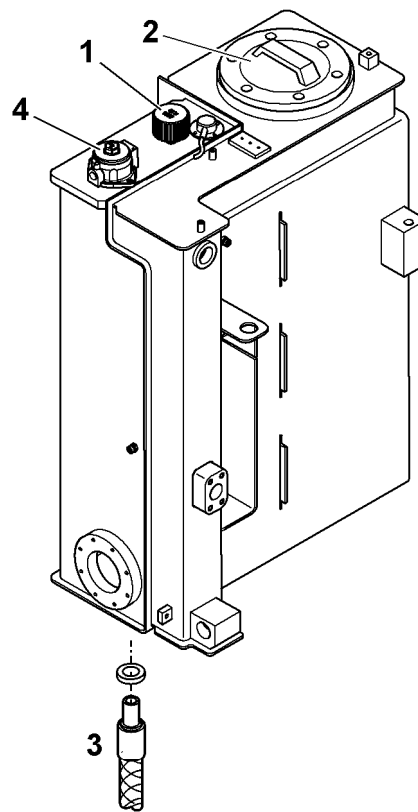

Fig. 5-36 Draining and refilling the hydraulic oil
- ▶ Keep the drain hose on the drain valves **3** (siehe Fig. 5-36) until oil which contains no water flows.